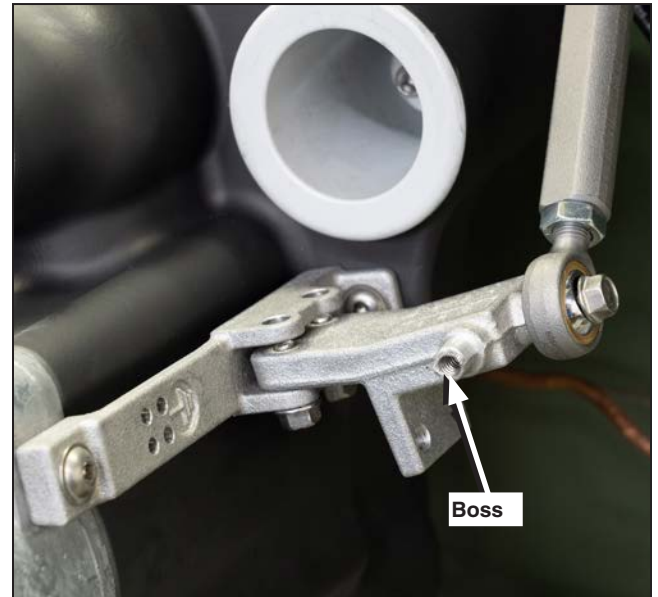

Figure 26. The adjustable cross-brace link boss.
- STEP 1.** Install the adjustable cross-brace link onto the H1B bushing well interrupter boss with the  $\frac{1}{4}$ -20  $\times$   $\frac{5}{8}$ -inch flange-head bolt finger tight, as shown in Figure 26.